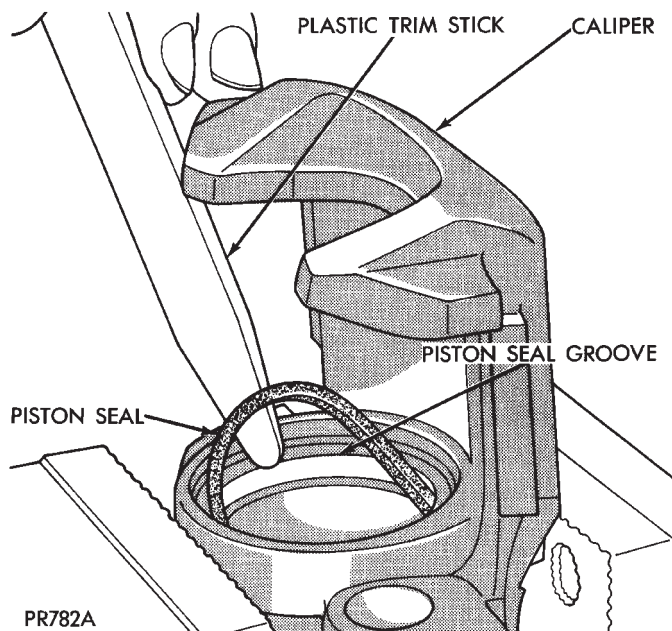

Fig. 2 Removing Piston Seal
(6) Using a plastic trim stick, work piston seal out of its groove in caliper piston bore (Fig. 2). Discard old seal. **Do not use a screwdriver or other metal tool for this operation, because of the possibility of scratching piston bore or burring edges of seal groove.**